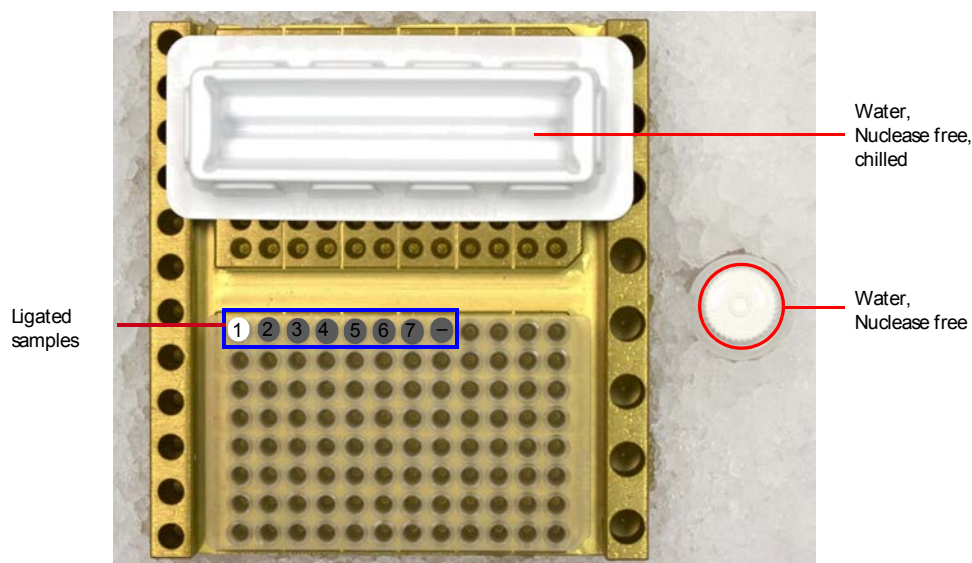

Figure 8 Reagent reservoir on upper half of cooling block on ice.
2. Place reagent reservoir on upper half of cooling block on ice (Figure 8).